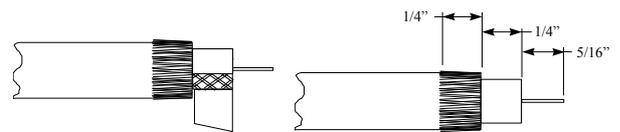

Figure 2
6. For quad-shield cables, uniformly fold back the first layer of braid against the cable jacket. Remove the exposed foil. Uniformly fold back the second layer of braid against the cable jacket (Fig. 2).